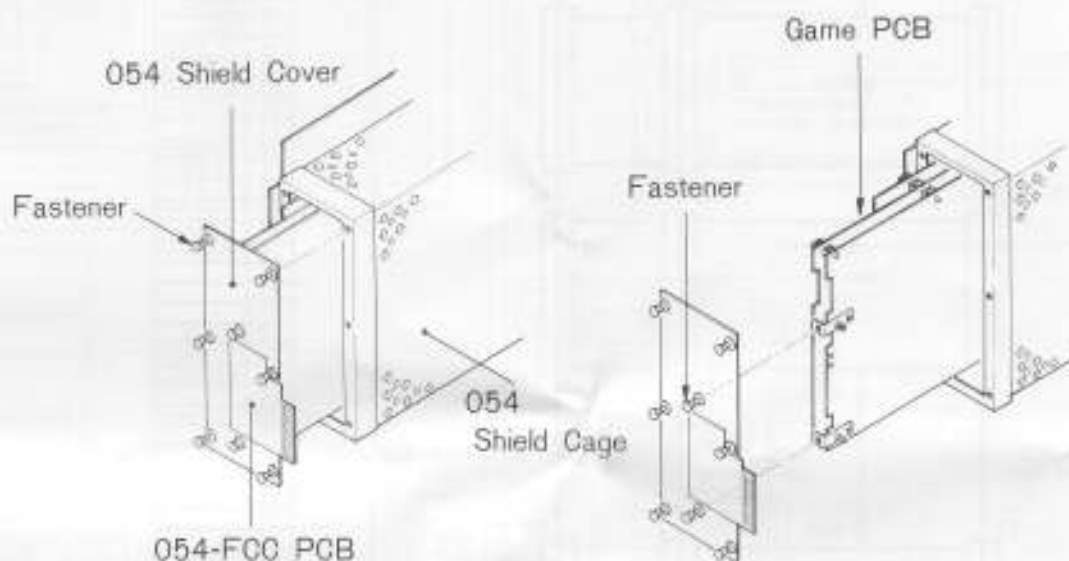

Fig. 15 Game PCB Removal
- (d) Pull out 6 Fasteners located on perimeter of the 054 Shield Cover. See Fig. 15.
- (f) Pull out 2 Fasteners in the middle of the 054 Shield Cover. The Game PCB can now be removed. See Fig. 15.
- (e) After servicing the Game PCB, shut the 054 Shield Cover completely with the Fasteners. See Fig.15.